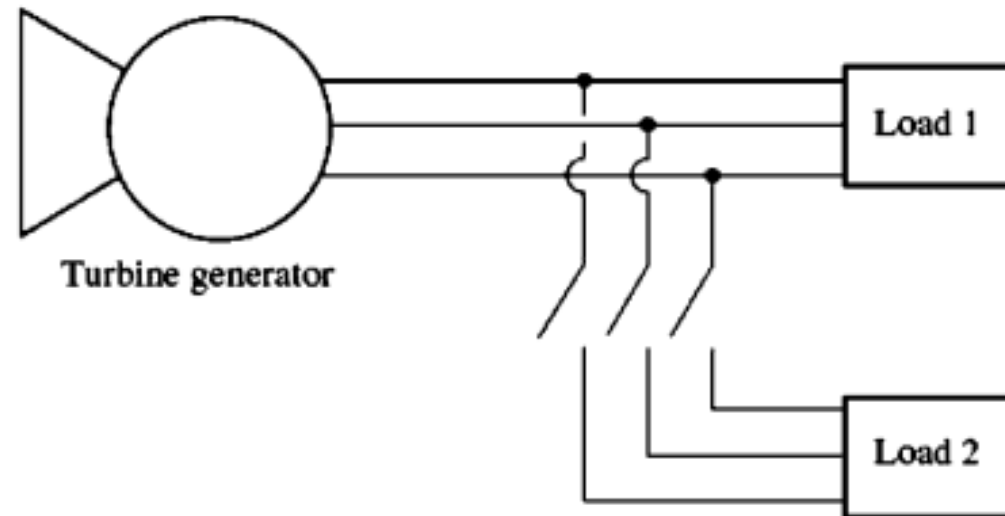

FIGURE 5–31
2. If the generator is loaded with the rated current at unity power factor, then the phasor diagram will look like Figure 5–24b. To find V_ϕ here the right triangle is
Condition 2 ensures that the sequence in which the phase voltages peak in the two generators is the same. If the phase sequence is different (as shown in Figure 5–27a), then even though one pair of voltages (the *a* phases) are in phase, the other two pairs of voltages are 120° out of phase. If the generators were connected in this manner, there would be no problem with phase *a*, but huge currents would flow in phases *b* and *c*, damaging both machines. To correct a phase sequence problem, simply swap the connections on any two of the three phases on one of the machines.
Example 5–5. Figure 5–31 shows a generator supplying a load. A second load is to be connected in parallel with the first one. The generator has a no-load frequency of 61.0 Hz and a slope s_p of 1 MW/Hz. Load 1 consumes a real power of 1000 kW at 0.8 PF lagging, while load 2 consumes a real power of 800 kW at 0.707 PF lagging.
If a generator is connected in parallel with another one of the same size, the resulting system is as shown in Figure 5–38a. In this system, the basic constraint is that the sum of the real and reactive powers supplied by the two generators must equal the P and Q demanded by the load. The system frequency is not constrained to be constant, and neither is the power of a given generator constrained to be constant. The power-frequency diagram for such a system immediately after G_2 has been paralleled to the line is shown in Figure 5–38b. Here, the total power P_{tot} (which is equal to P_{load}) is given by
What happens if the field current of G_2 is increased? The resulting behavior is analogous to the real-power situation and is shown in Figure 5–38d. When two generators are operating together and the field current of G_2 is increased,
Example 5–6. Figure 5–38a shows two generators supplying a load. Generator 1 has a no-load frequency of 61.5 Hz and a slope s_{p1} of 1 MW/Hz. Generator 2 has a no-load frequency of 61.0 Hz and a slope s_{p2} of 1 MW/Hz. The two generators are supplying a real load totaling 2.5 MW at 0.8 PF lagging. The resulting system power-frequency or house diagram is shown in Figure 5–39.